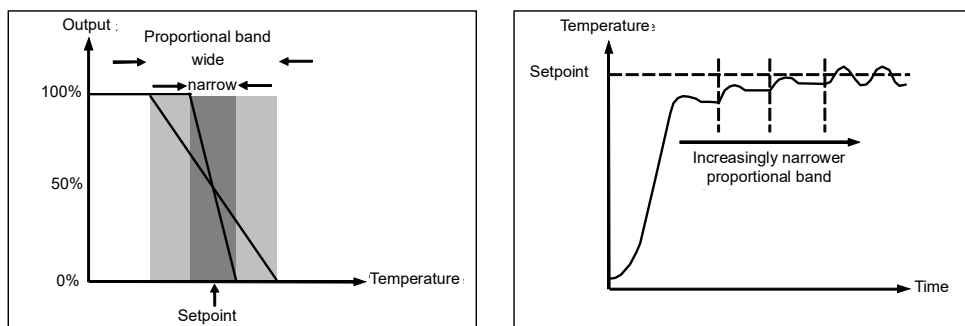

Figure 113 Proportional Action
The proportional band, or gain, delivers an output which is proportional to the size of the deviation. It is the range over which the output power is continuously adjustable in a linear fashion from 0% to 100% (for a heat-only controller). Below the proportional band (PB) the output is full on (100%), above the proportional band the output is full off (0%) as shown in Figure 113.
Figure 113 also shows the effect of narrowing proportional band to the point of oscillation. A wide proportional band results in straight line control but with an appreciable initial deviation between setpoint and actual temperature. As the band is narrowed the temperature gets closer to setpoint until finally becoming unstable.